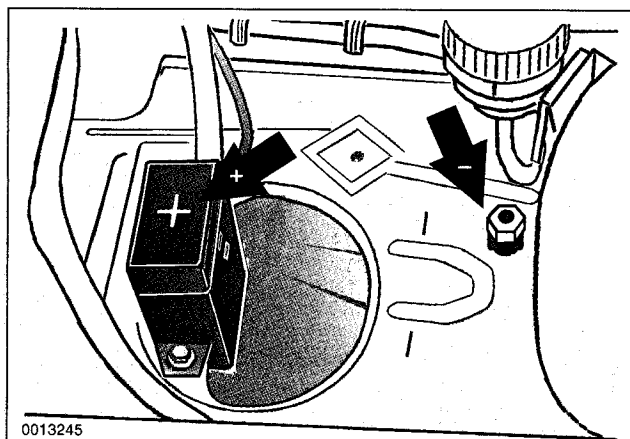

Fig. 17. Battery jump starting posts (arrows) behind right front strut tower. Lift cover to access positive post.
2. Connect one end of the positive (+) cable to the positive (+) post of the good battery. Remove the cover from the positive (B+) junction post in the engine compartment of the dead car and connect the other end of the positive (+) cable to the junction post. See Fig. 17.